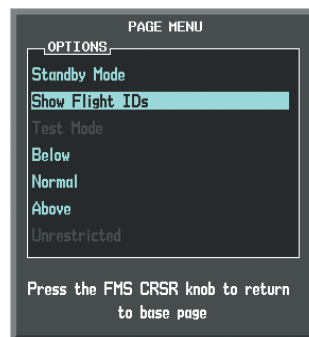

Figure 6-167 Traffic Map Page Menu
- 2) Turn the small **FMS** Knob to select 'Show Flight IDs' or 'Hide Flight IDs' (choice dependent on current state) (Figure 6-167).